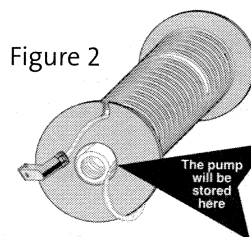
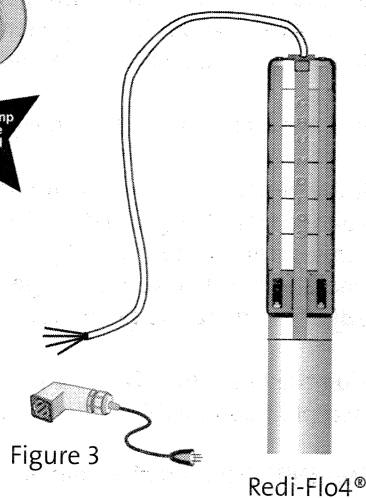

Figure 2
Figure 3
2. Either a Redi-Flo2® pump and motor with lead (Figure 2) or a Redi-Flo4™ Variable Performance pump, motor, lead, lead/plug and RF4 x VFD adapter cord (Figure 3).